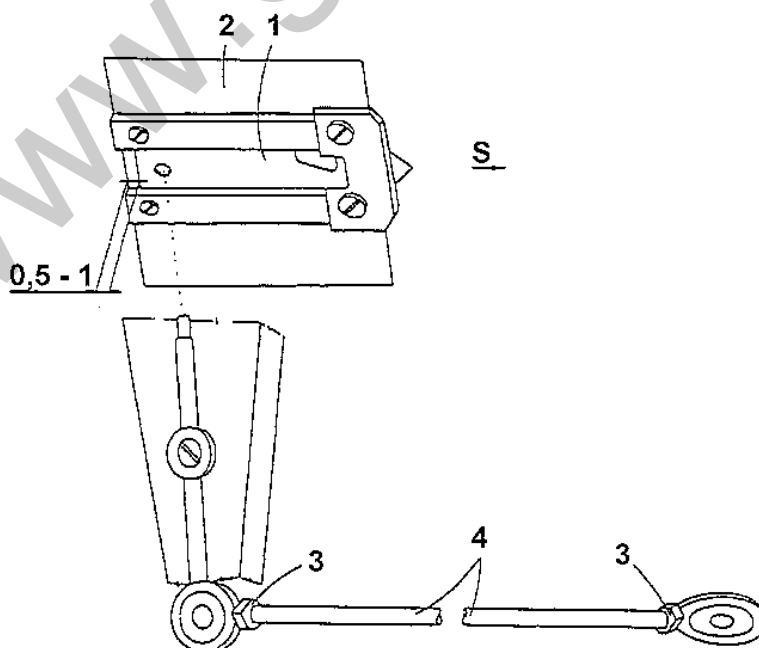

Fig. 17
24. To adjust the starting position of the drawing hook (Fig. 17)
31. To remove and to mount trimmer knife (the drawing hook) (Fig. 17)